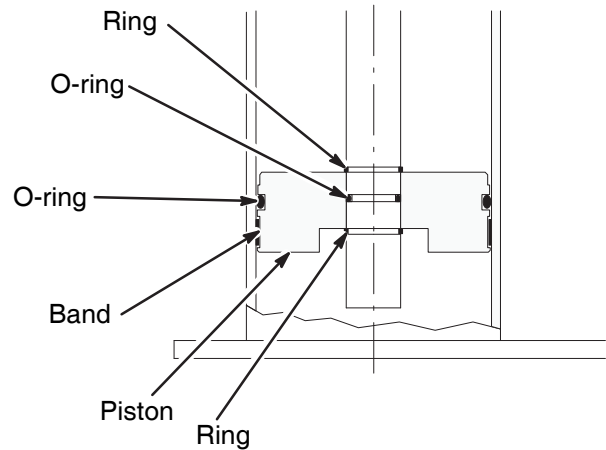

Fig. 15
7. Install the new limit switch (305) on the limit bracket (306) using the fasteners.
9. Make sure that the limit switch roller is positioned in the same location per the measurement in step 5. See Fig 15.